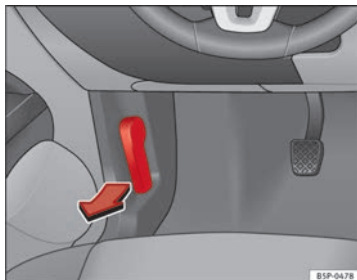

Fig. 157 Detail of foot-well area on driver side: lever for unlocking the bonnet.
- To release the bonnet, pull the lever under the dash panel ⇒ fig. 157 in the direction indicated (arrow). The bonnet will be released by a spring action ⇒ ⚠.